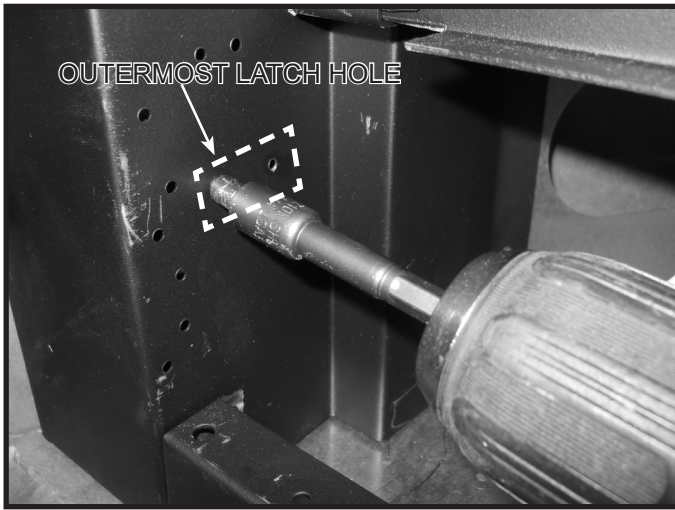

Figure 2. Install Shoulder Screw (1 Per Side)
2. Install a shoulder screw in the outermost hole from where the latches were removed. See Figure 2. Shoulder screws are located in the manual bag. Tighten shoulder screw until snug. Do not overtighten.